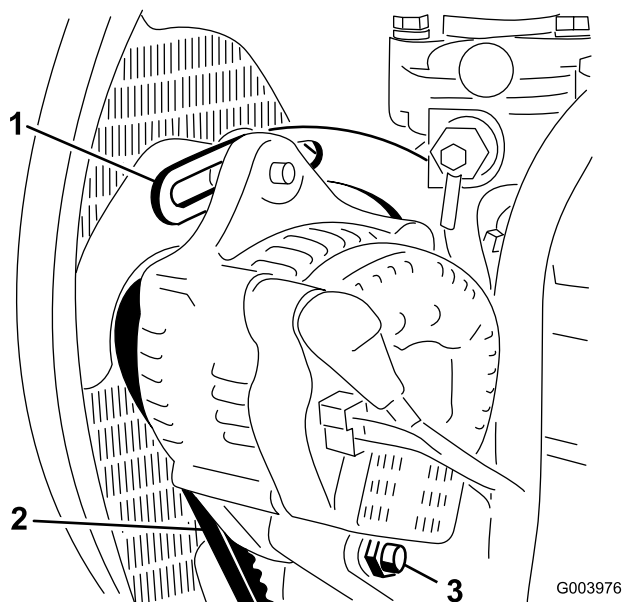

Figure 50
2. Check the tension of the alternator belt by depressing it (Figure 50) midway between the alternator and the crankshaft pulleys with 22 lb (10 kg) of force.
3. Loosen the bolt securing the brace to the engine (Figure 50), the bolt securing the alternator to the brace and the pivot bolt.